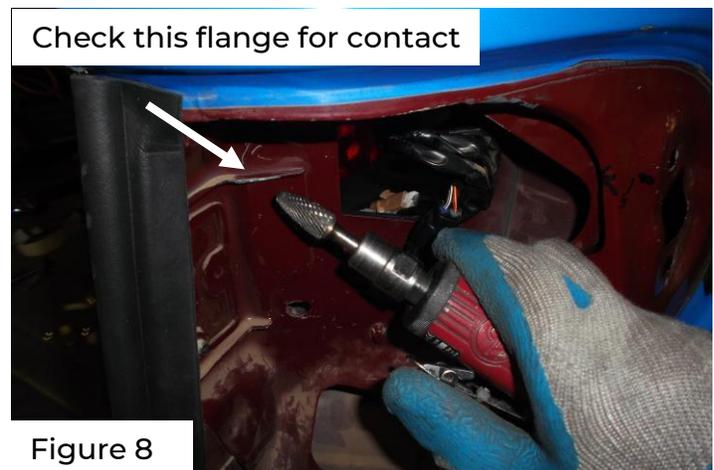

Figure 8
8. Before you wire the connections to your new LED lights, quickly check for any interference with the LED Tail light housing and the FJ Cruiser body sheet metal on the passenger side. Hold the housing into the opening and try to feel if it is contacting the latch support reinforcement (passenger side only.) See Figure 8. If you believe that you may have contact, or just want to make sure, you can lightly shave the top flange of the reinforcement with a die grinder, file, hacksaw blade, or other. If you file this flange down, make sure to paint the exposed metal to prevent any future rust.